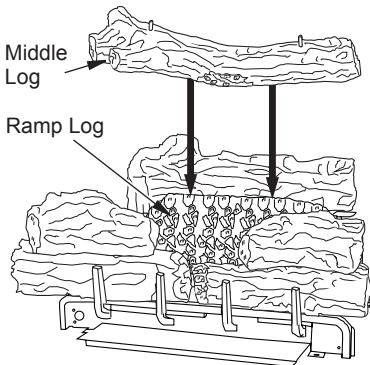

Figure 33 - Installing Middle Log
7. Place the middle log onto the ramp log as shown in Figure 33, page 21. The middle log has two tabs on the bottom to position from left to right on the ramp log. The front of the middle log should be touching the front left and right top logs.